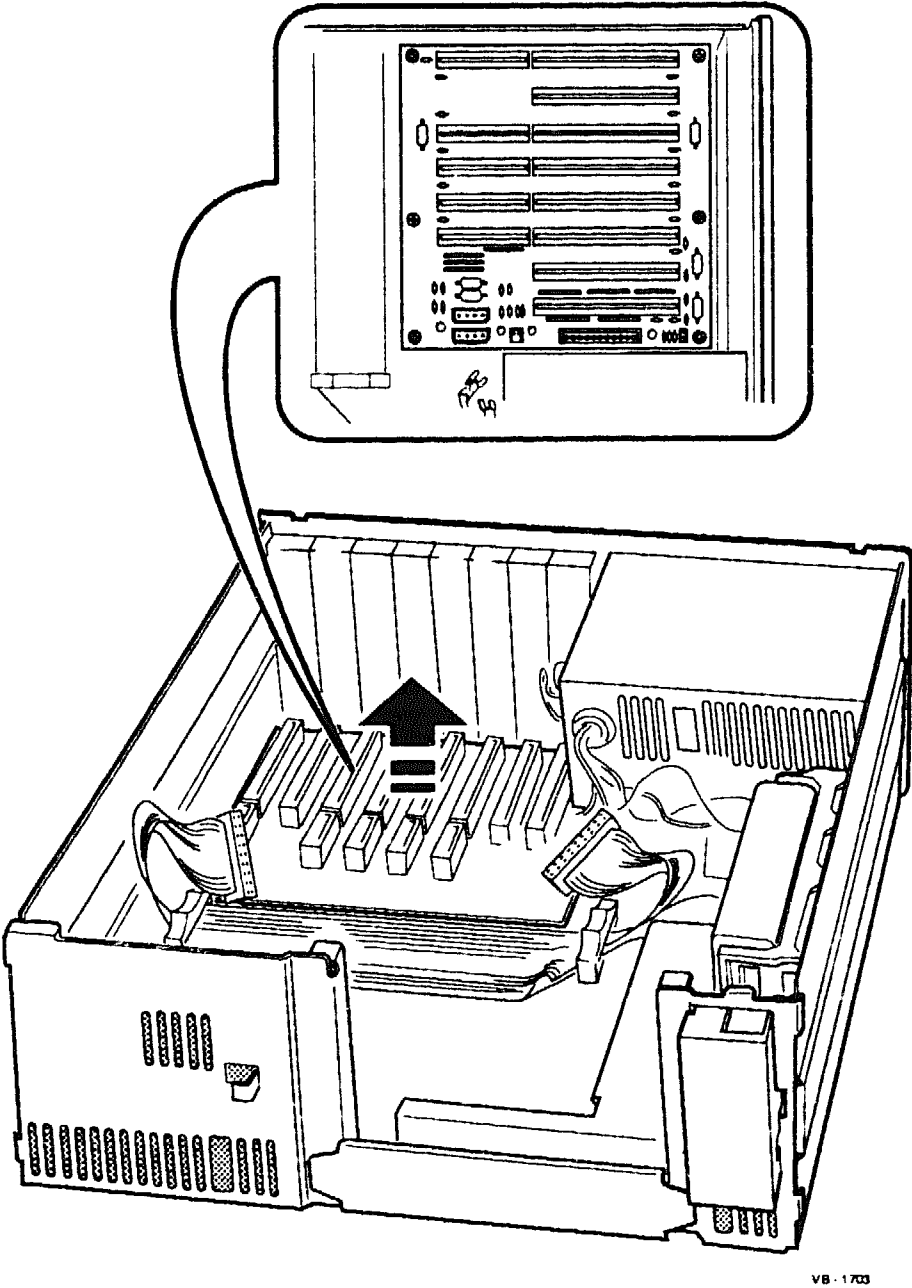

Figure 5-15 Removing the Bus Expansion Board
4. Remove the two power cables from the power supply to the bus expansion board (Figure 5-15).
5. Remove the six screws that secure the bus expansion board to the chassis (Figure 5-15).
6. Remove the bus expansion board from the system (Figure 5-15).